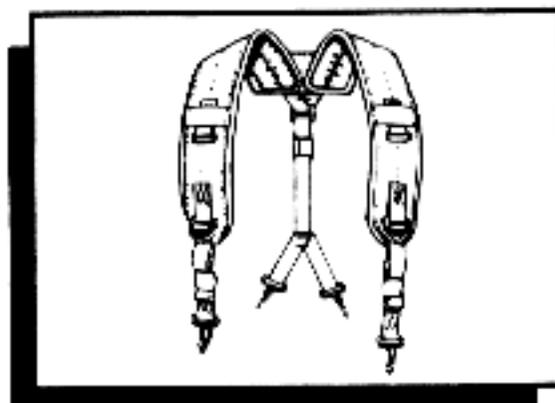

Figure 4-3. Individual equipment belt suspenders.
**Individual Equipment Belt Suspenders.** The suspenders (figure 4-3) support the individual equipment belt when the appropriate components are attached to the belt. Web band metal loops are provided on each suspender strap for attachment of small items such as the first aid/compass case or a flashlight.